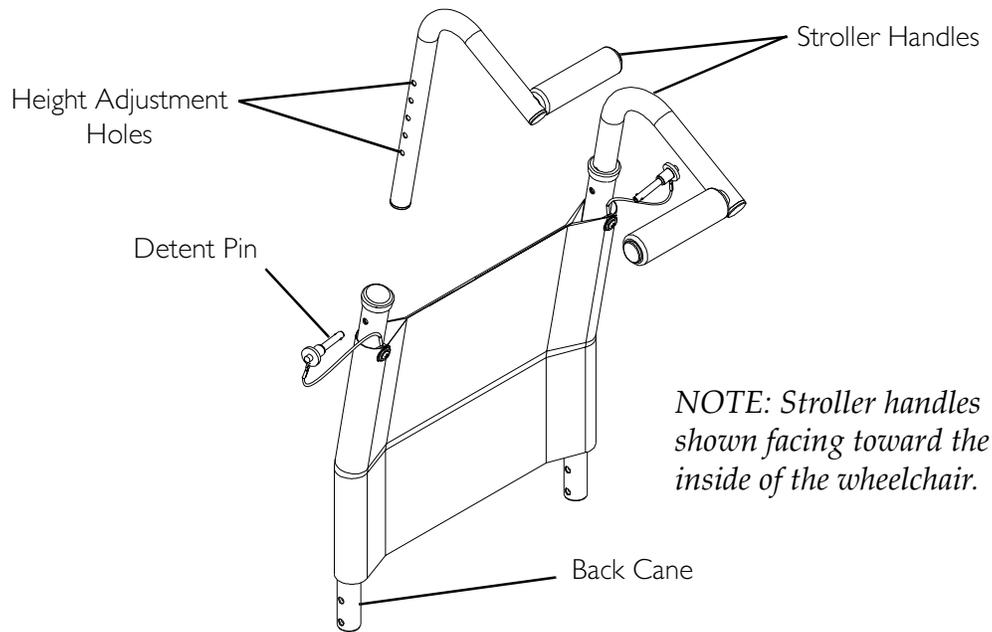

FIGURE 12.3 Installing/Adjusting Stroller Handles
NOTE: For this procedure, refer to FIGURE 12.3 on page 65.
- 12-14-Inch Wide Wheelchairs - Insert one of the stroller handles into one of the back canes so that it is facing either toward or away from the inside of the wheelchair (FIGURE 12.3).
- 10-Inch Wide Wheelchairs - Insert one stroller handle into one of the back canes so that it is facing away from the inside of the wheelchair (FIGURE 12.3).